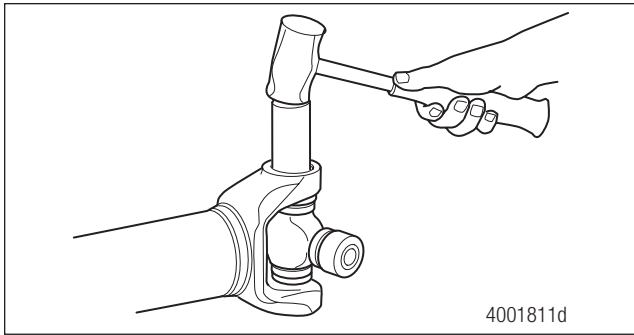

Figure 5.2
2. If necessary, use a brass drift and lightly tap the center of the bushing to assist in snap ring removal. Figure 5.2.